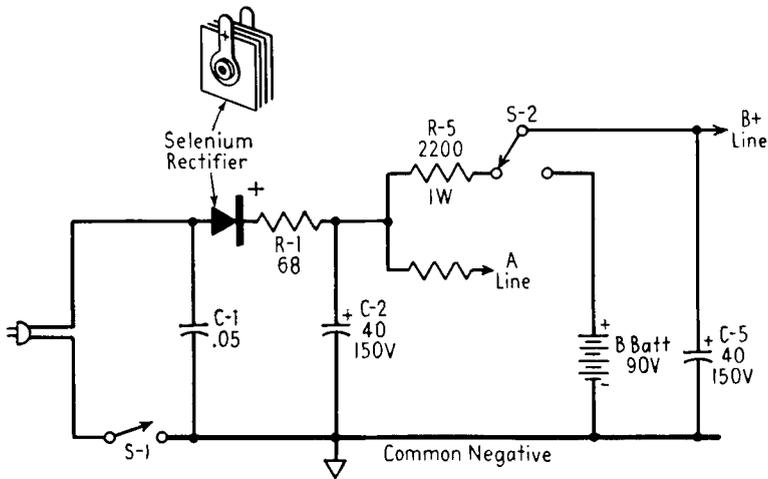

FIG. 19-13. A selenium rectifier and its position in the power supply of a three-way portable receiver.
**The rectifier and *B* circuit in three-way portables.** A typical *B* circuit used in three-way portables is shown in Fig. 19-13. The rectifier in most common use is the dry-plate selenium type pictured in the diagram. The usual size has a 75-ma rating, although some receivers use a 65-ma recti-